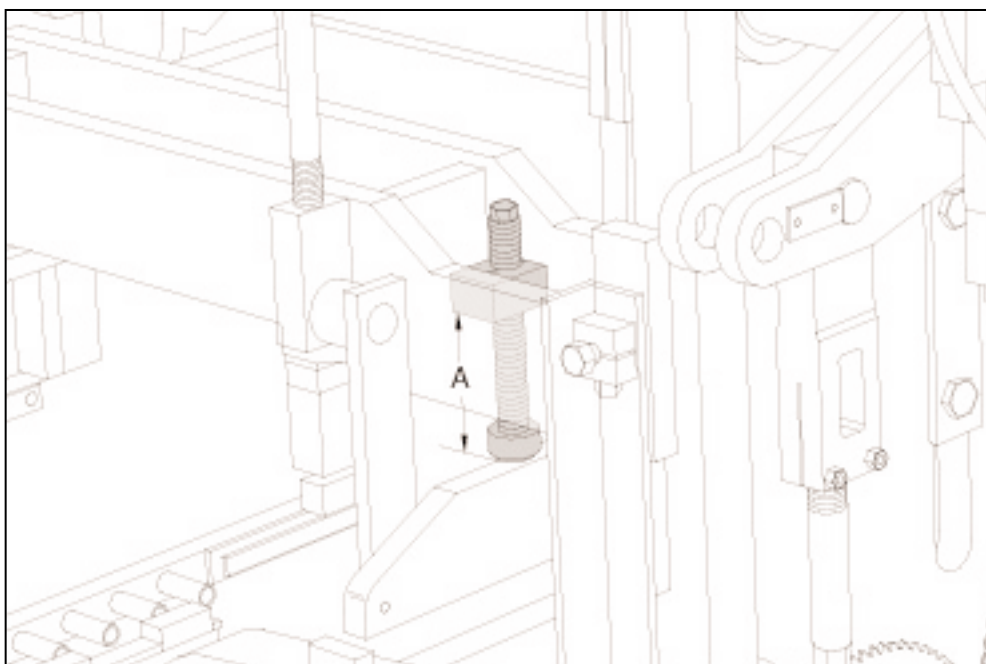

Figure 4.15 SHOCK ABSORBERS ADJUSTMENT.
4.1.8 Adjust the shock absorbers to a dimension **11 15/16" [303mm]** (represented by "A" in figure 4.15) from the bottom of the clamp blocks to the bottom of the rubber pads.